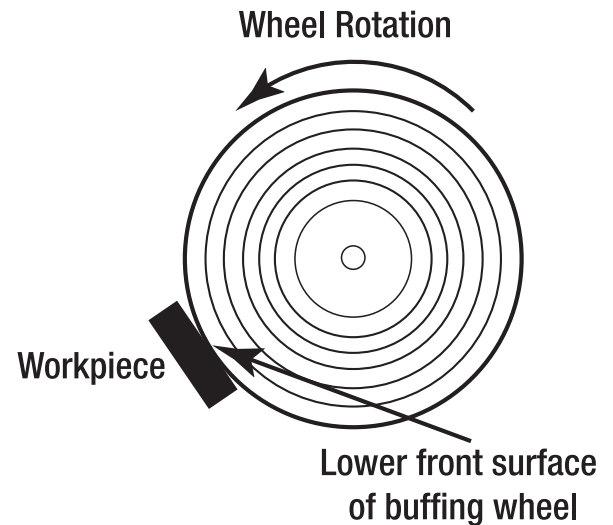

FIGURE 6
5. Move the workpiece towards the buffing wheel until it lightly comes in contact. With back and forth movement across the lower front surface of the buffing wheel, buff your workpiece to the desired finish, refer to Fig.6.